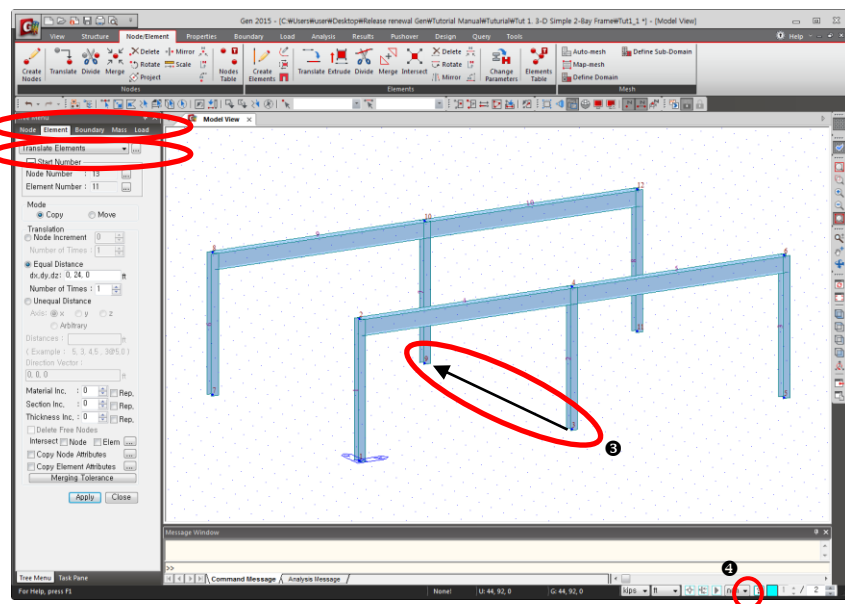

Figure 1.10 Duplication of 2-D Frame
When switching from the current modeling function to another function, the **Main Menu** or **Tree Menu** can be used. In the case of mutually related functions (example: **Create Elements**, **Translate Elements**, etc.), **midas Gen** enables the user to switch directly using the functions selection field (Fig.1.10-❷).
Where the functions are remotely related or unrelated, it is recommended that the **Model Entity** tabs shown in Fig.1.10-❶ be used (**Node**, **Element**, **Boun...**, **Mass**, **Load**).
4. Select **Translate Elements** from the functions selection field (Fig.1.10-②).
7. Enter “**0, 24, 0**” in the *dx, dy, dz* field (↔Refer to Note 2).^①
① Instead of typing in the values for dx, dy, dz, the distance and direction of the position to be moved/duplicated can be defined with the mouse cursor using *Mouse Editor* (Fig.1.10-③).
② In Fig.1.10:
①: Model Entity tab
②: list of related functions
③ dx, dy, dz are to be entered in UCS. If the UCS has not been defined, it is assumed to be identical to GCS.
④ Fast Query shows the attributes of the snapped nodes or elements which are off  in Fig.1.10-④. The attributes that can be verified by Fast Query are as follows: Node number, coordinates, element number, element type, material properties/section ID/thickness ID of element, Beta Angle, linked node numbers and length/area/volume of element.